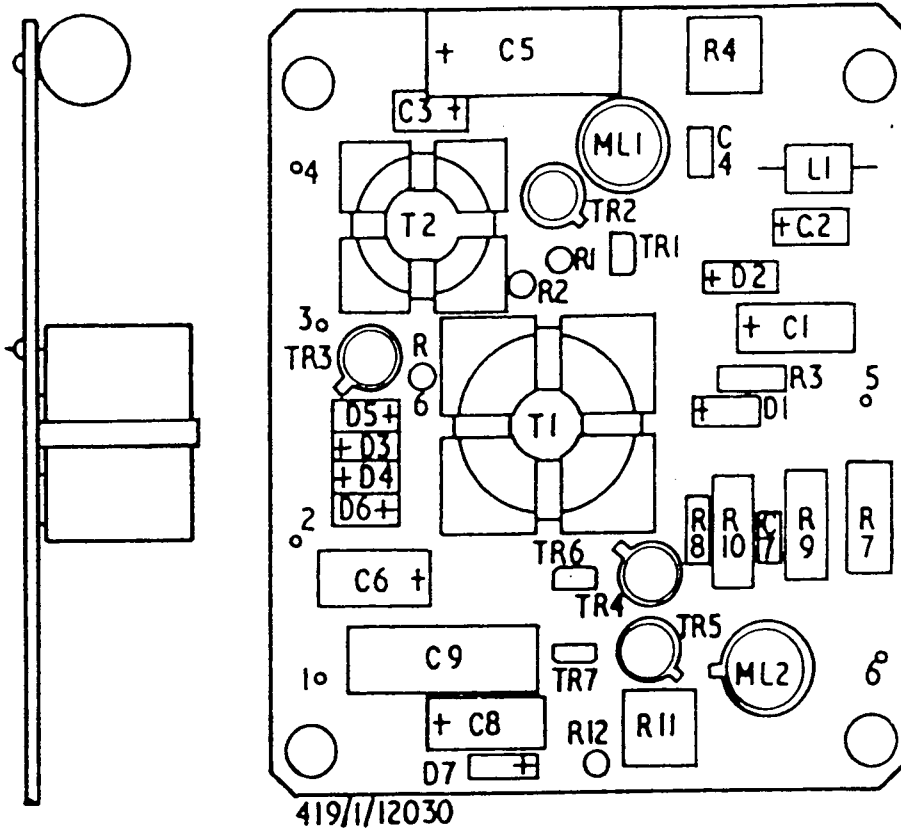

Fig. 4 Panel, electronic circuit, ( unit 5b) - component layout
20. The principal component parts of the Panel, electronic circuit 419/1/12030 (Unit 5b) (see fig.4) are: